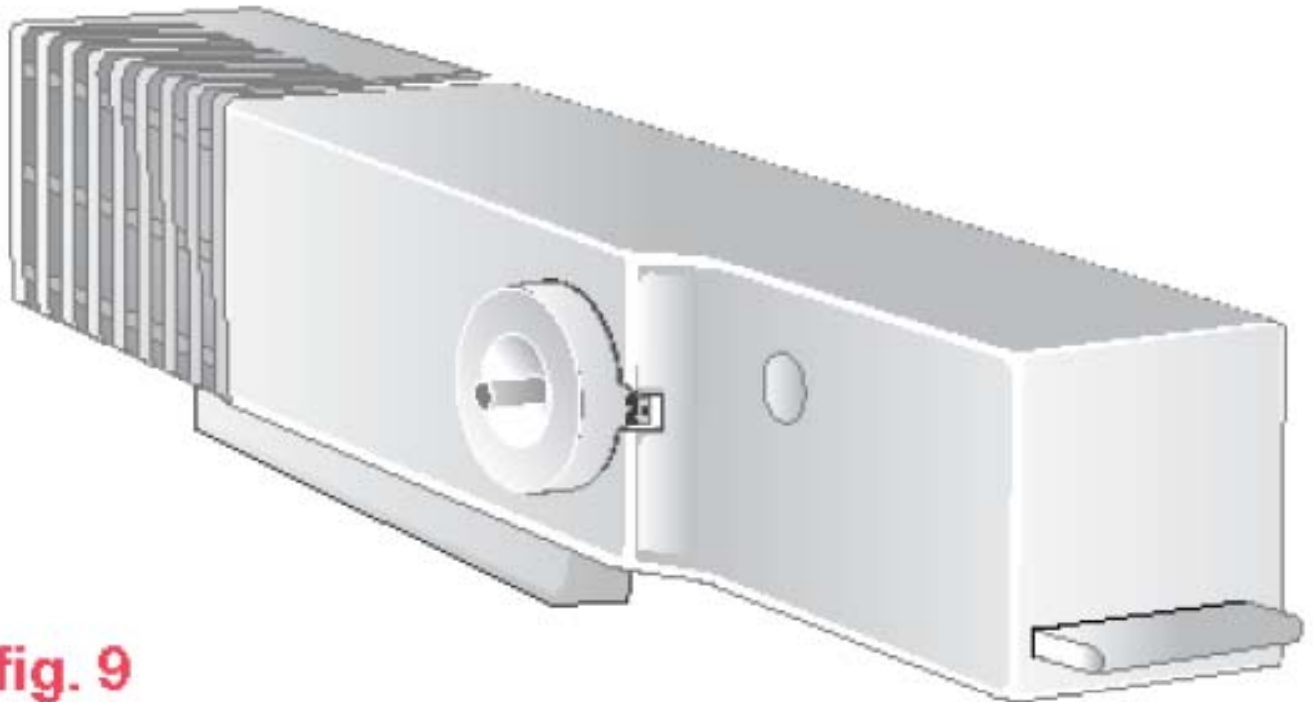

fig. 9
- To obtain the optimum temperature inside both the refrigerator and the freezer, turn the thermostat to a middle setting (see Fig.9, above).